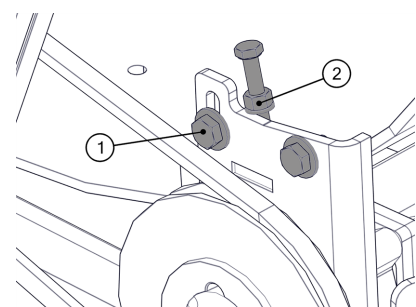

Figure 24 - Pump belt adjustment
2. Loosen the two M10 bolts on the hydraulic pump mounting pad (Figure 24, Item 1).
3. Loosen the M8 lock nut on the drive belt tensioning bolt (Figure 24, Item 2).